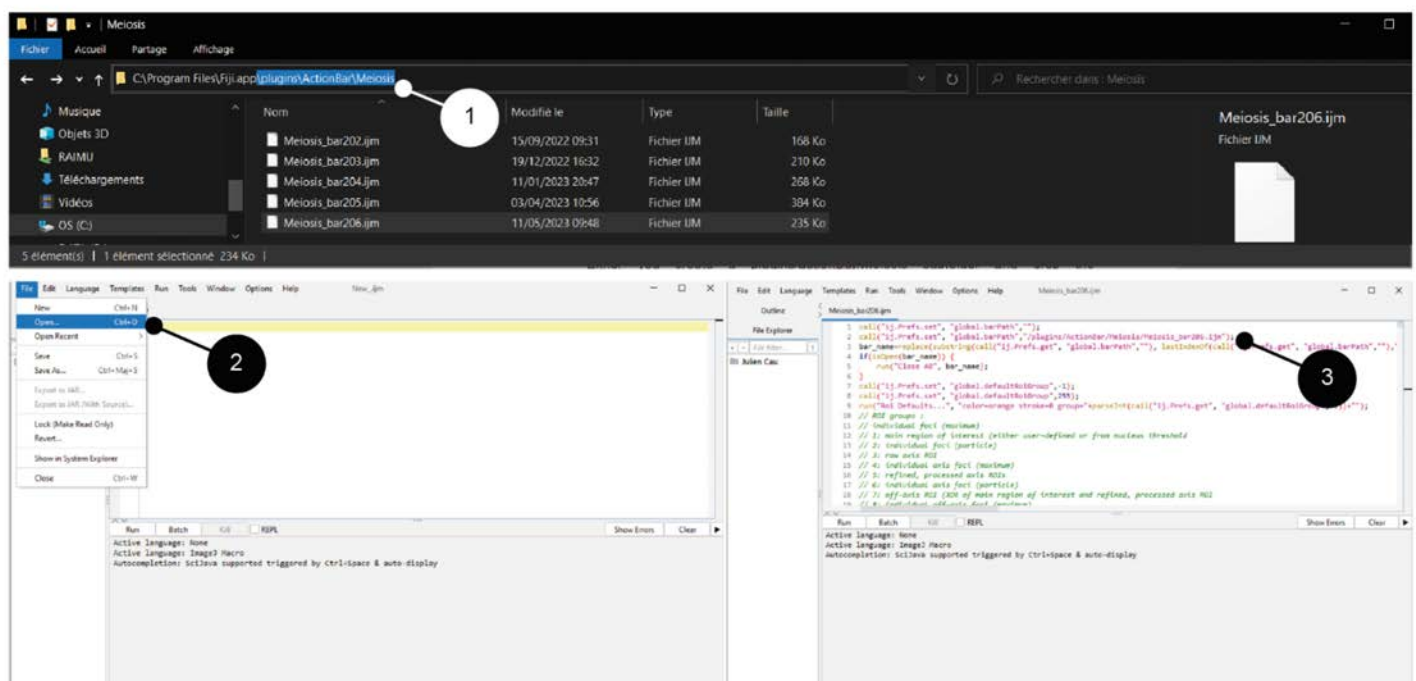

Figure 0.2. MeiQUANT installation.
**STEP 1.** Copy the "meiosis\_bar206.ijm" file to a location within the ImageJ/Fiji folder. Copy the file's path, starting from the parent folder of ImageJ/Fiji (highlighted in blue in the top panel of Figure 0.2). For example, on a PC, you would need to copy "`plugins\actionBar\Meiosis`".
**STEP 2.** In Fiji, create a new script (File > New > Script). Then, in the new.ijm window (lower left panel of Figure 0.2), go to File > Open and select the location of the file. Alternatively, drag and drop the meiosis\_bar206.ijm file on the main ImageJ/Fiji window. This opens the macro in the classical macro editor if using ImageJ and the script editor in Fiji.
**STEP 3.** The "meiosis\_bar206" script will open. Modify the location on line 2 while ensuring that it remains within parentheses (the text should appear in purple if using the script editor, lower right panel figure 0.2).